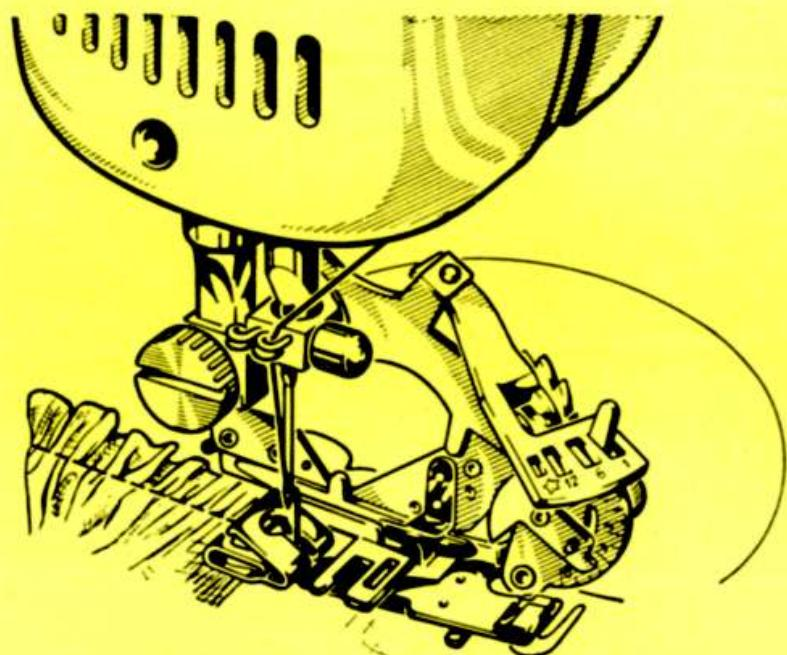

Fig. 17
- 4) Draw material slightly back of needle, lower presser bar and sew. Fig. 17 shows the ruffle being made by the ruffler.